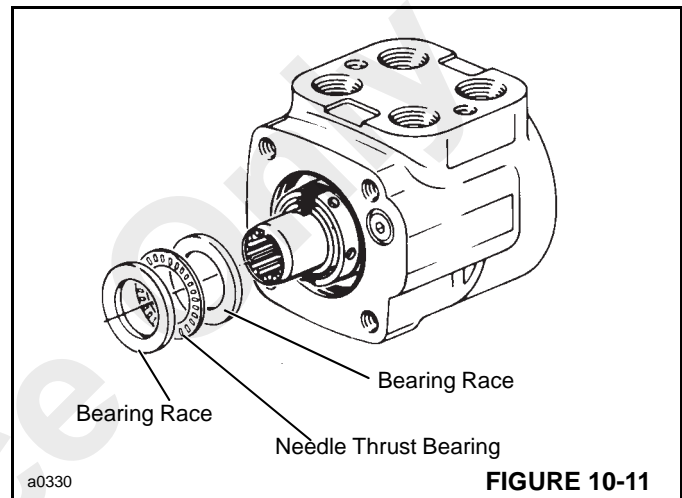

FIGURE 10-11
7. Remove quad seal (5) from gland bushing (3).
8. Use a thin bladed screwdriver to pry dust seal (1) from gland bushing (3). Do not damage the gland bushing.
9. Remove needle bearing kit (6). The kit consists of two bearing races and a needle thrust bearing. See Figure 10-11.